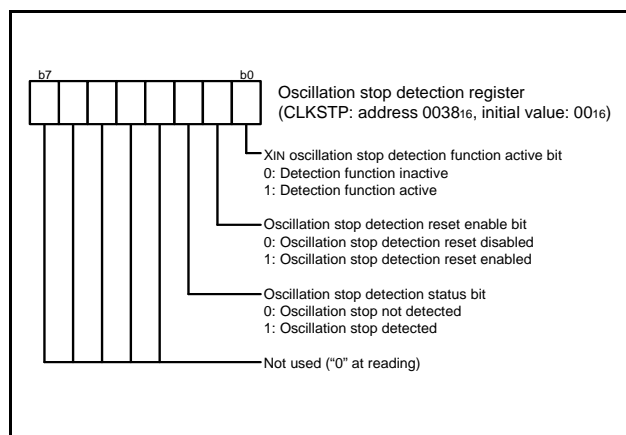

Fig 68. Structure of oscillation stop detection register
- (1) Do not execute the transition to “state 2’a” shown in Figure 68 State transition of oscillation stop detection circuit. In this state, no reset is triggered and the MCU is stopped even when the XIN oscillation stops.
- (2) After an oscillation stop detection reset, if this reset is enabled while bits XIN oscillation stop detection function active and oscillation stop detection status are retained, a reset is triggered again.
- (3) The oscillation stop detection status bit is initialized under the following conditions:
- (4) While the oscillation stop detection function is in active, the oscillation stop detection status bit may set to 1 when the watchdog timer underflows or by a reset when the STP instruction is executed with the STP instruction function selection bit set to 1.